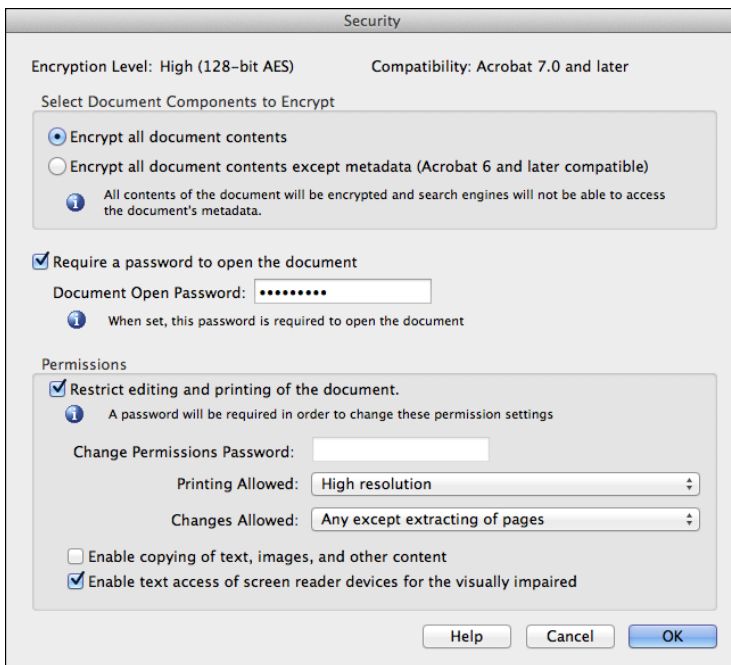

Fig. 8.3: Acrobat Distiller “Security” dialog
- Start Acrobat Distiller and go to `Settings > Security...`. In the “Security” window (Fig. 8.3) specify the required options, and finally confirm your entries with the `OK` button.